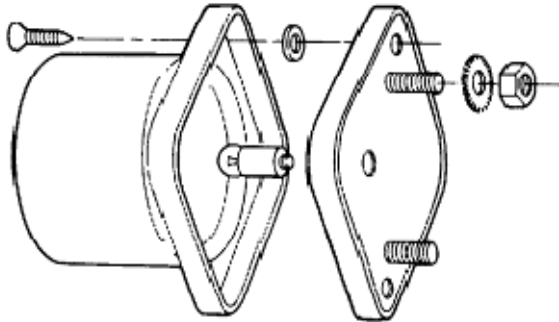

Figure 158 Convoy Light Exploded View
- b. Remove the lens and the sealing-washers (Figure 158).